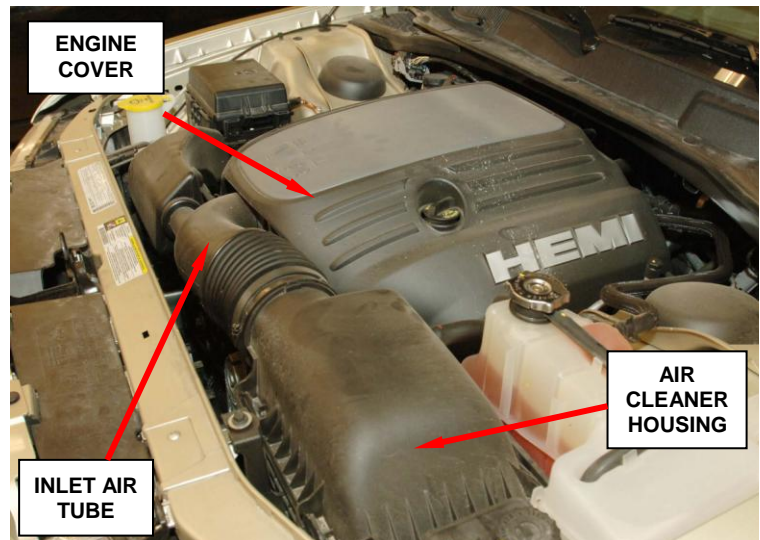

Figure 17 – Engine Cover and Air Cleaner
3. **On Hemi engine only**, remove the engine cover (Figure 17).
4. Remove the air cleaner housing and inlet tube to the throttle body (Figure 17).
26. Install air cleaner housing and inlet tube (Figure 17).